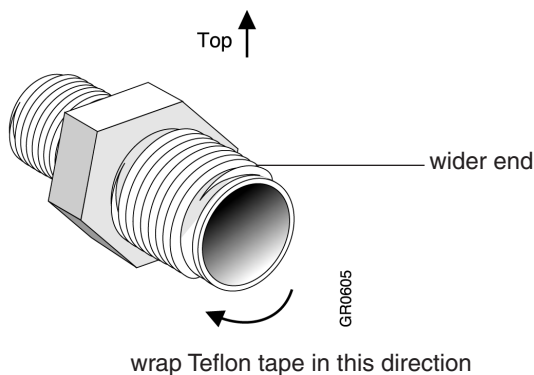

Figure 6-13. Fitting body showing direction to wrap Teflon tape
3. Wrap the Teflon tape around the threads of the wider end of the fitting body (Figure 6-13). Make sure you wrap the tape in the direction shown in the figure.